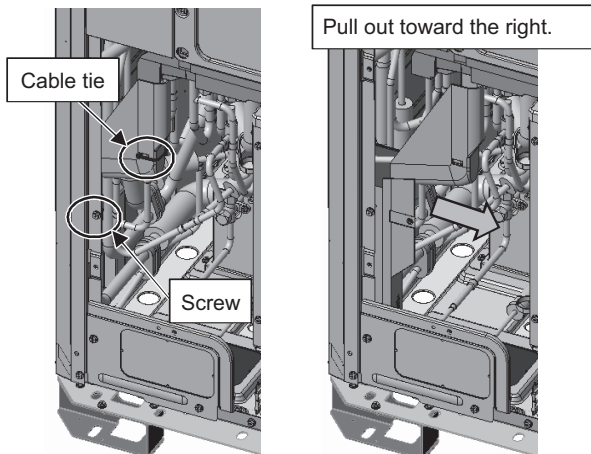

Figure 3
Unscrew the four screws indicated with arrows (A) in Figure 3.
The arrow indicated with dotted lines is located where indicated in Figure 3-a.
[Figure 3]
[Figure 3-a]
- (2) Cut the cable tie, unscrew the screw, and pull out the drain pan cover toward the right. (See Figure 3.)